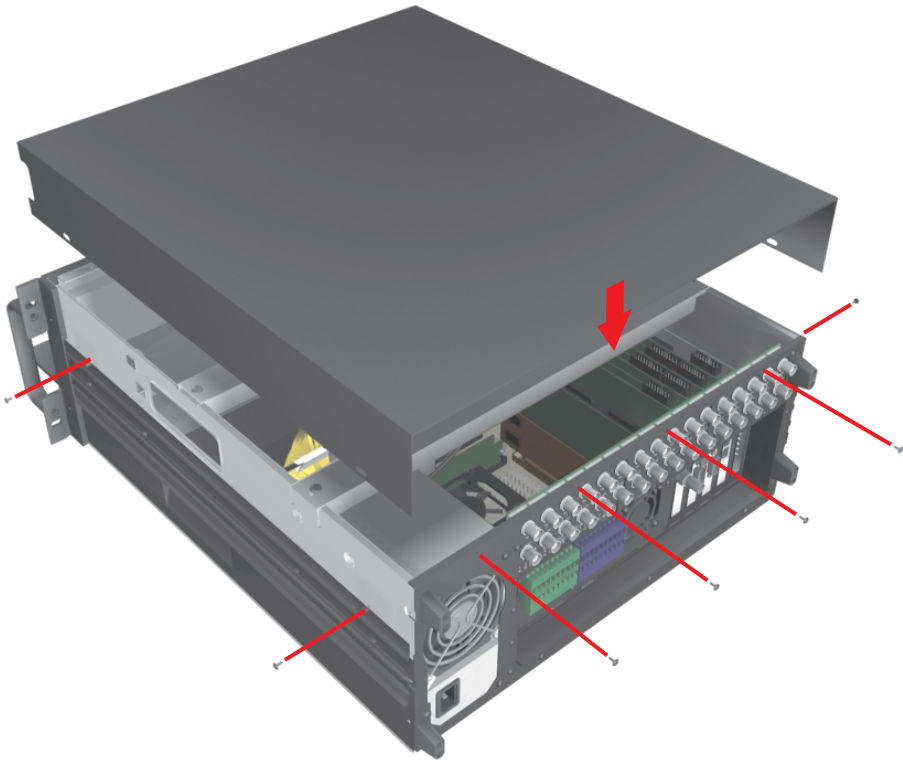

Figure 17. Replacing Chassis Cover
2. Replace the chassis cover using the same screws you removed from the side and rear of the unit. Refer to Figure 17.